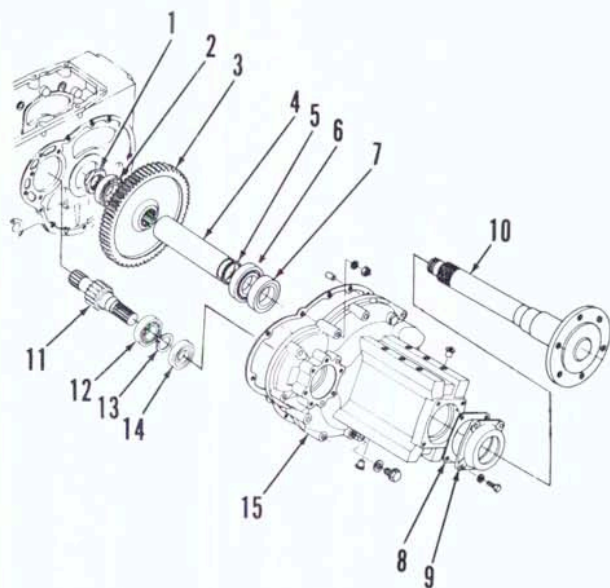

Fig. 137—Exploded view of final drive assembly used on Model L285.
**102. OVERHAUL.** To disassemble final drive assembly, secure axle shaft (10—Fig. 137) and remove nut (1). Remove bearing (2) and bull gear (3). Remove cap screws securing seal retainer (9), then tap axle shaft out of axle housing.